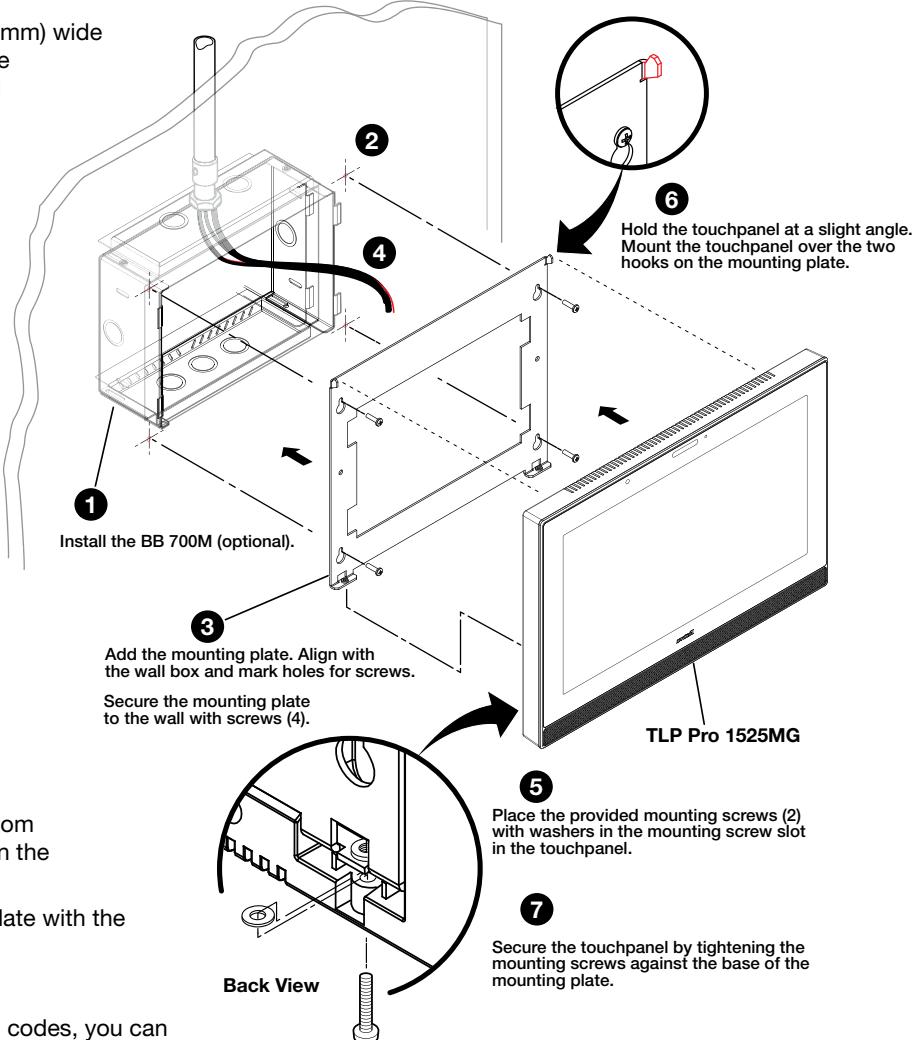

Figure 1. TLP Pro 1525MG Mounting
The touchpanels can be wall mounted using the provided hardware. Where local codes require a rear metal enclosure, either model can be mounted using the Extron BB 700M (not provided). Figure 1 shows the TLP Pro 1525MG. Mount the TLP Pro 1225MG or TLP Pro 1725MG in the same way.
1. Cut a hole in the drywall, 9.6 inches (243 mm) wide x 6.6 inches (166 mm) high, and install the BB 700M (see figure 1, ①), as described in the *BB 700M Installation Guide* (see www.extron.com).
2. Place the metal mounting plate against the wall, mark the four mounting holes, and drill four pilot holes (②) in those locations.
3. Secure the mounting plate with four #10 screws (③).
4. Run and connect cables to the back of the touchpanel (④), and see Rear Panel Features on page 4).
5. Insert the two provided Phillips pan head #6-32 x 3/4 inch length screws with washers in the mounting screw slot (⑤, see figure 1, Back View inset). Leave a gap for the flange at the bottom of the mounting plate to fit into.
6. Hold the touchpanel at a slight angle and lower the notches at the top of the back panel over the hooks of the mounting plate (⑥).
8. Secure the touchpanel to the mounting plate with the mounting screws (⑦).